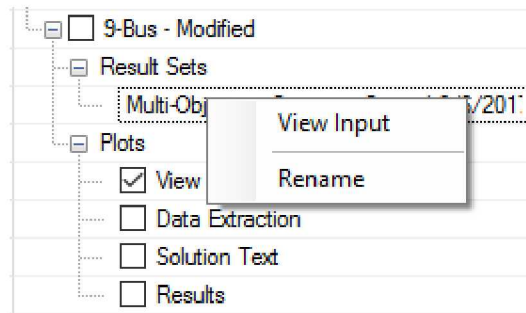

Figure 55. Opening the input set that created this result set.
2. Under the “Result Sets” header, right click on the solution set previously generated by the solver. (Figure 55).